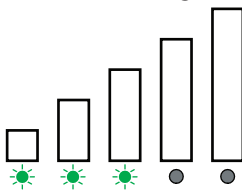

Figure 12
- After selecting the radio channel, wait for the Signal Strength LEDs to stop sweeping back and forth. 1 to 5 solid green LEDs means a connection has been made and indicates the strength of the signal (Fig.12).